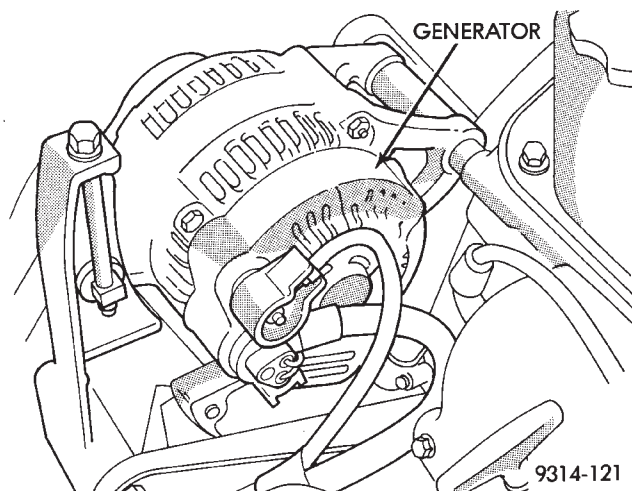

Fig. 49 Generator
(17) Check for loose or corroded connections at the generator (Fig. 49).